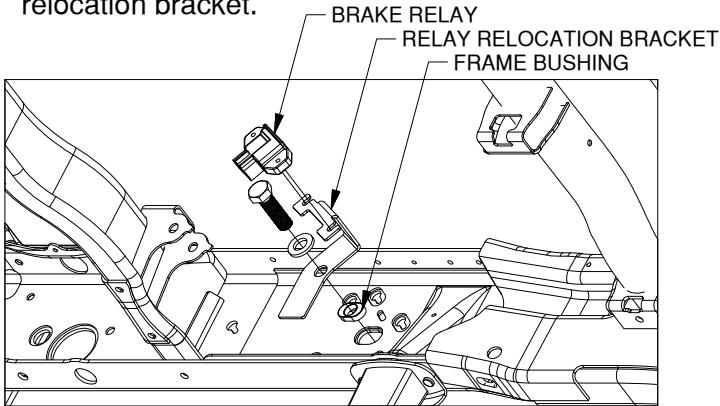
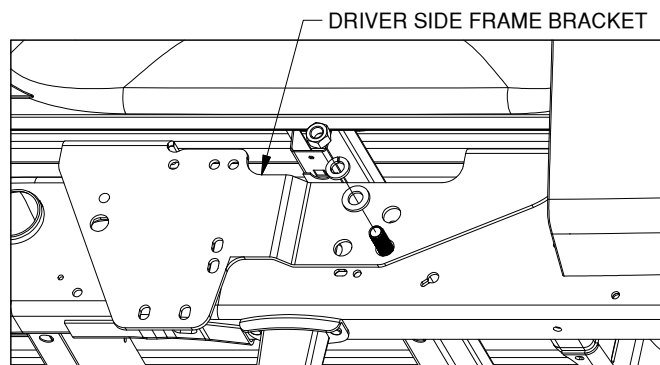

Figure B1: View from inside of driver side frame.
Figure B2: View from outside of driver side frame.
1. **Install the 3/4" cap screw.** Some truck models will come equipped with a brake relay in the location of the driver side frame bracket installation. A relocation bracket has been provided to move the relay out of the way of the installation if needed. Start the installation by locating the driver side frame bracket, a 3/4" x 2 1/2" cap screw, two 3/4" Flat washers, a frame bushing, 3/4" split lockwasher, 3/4" finish nut, and the relocation bracket (if needed). Detach the Brake relay (if present) from the inside of the driver side frame. Pass the 3/4" x 2 1/2" cap screw and a 3/4" flat washer through the relocation bracket (if needed) and through the frame, see figure B1. Place a frame spacer over the 3/4" cap screw and into the oval slot in the frame. Install the driver side frame bracket over the 3/4" cap screw on the outside of the frame and attach with a 3/4" flat washer, 3/4" split lockwasher, and a 3/4" finish nut, see figure B2. Do not tighten at this time. If the brake relay was present attach it to the relay relocation bracket.